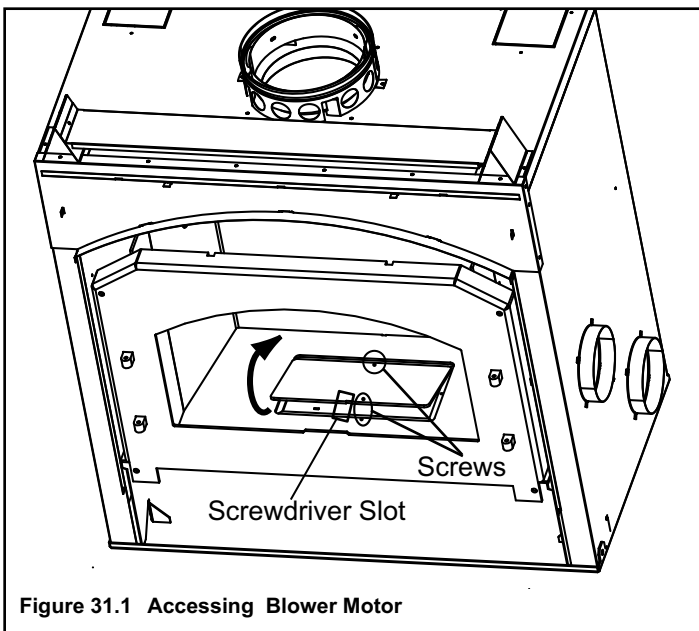

Figure 31.1 Accessing Blower Motor
2. Remove the 2 screws from the access panel in the fire-box floor. See Figure 31.1.